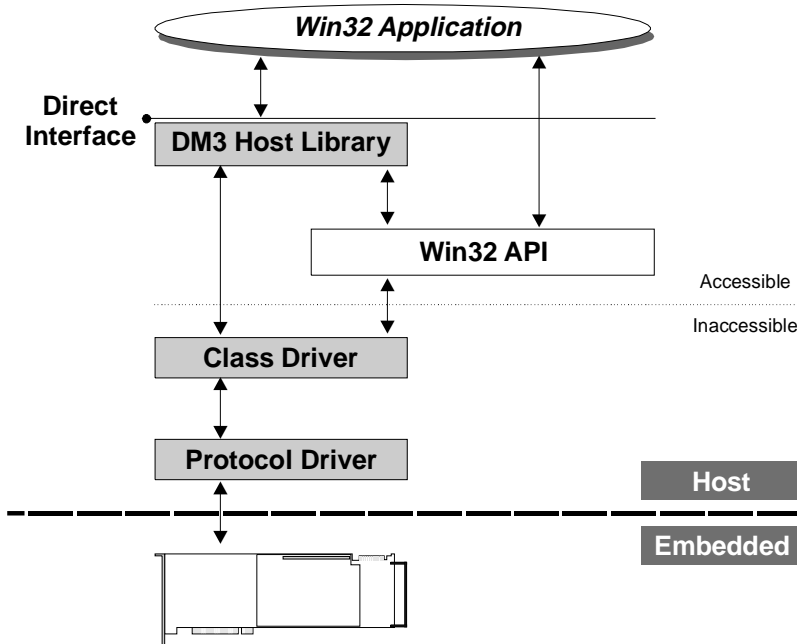

Figure 1. The DM3 Direct Interface in a System
As shown in *Figure 1. The DM3 Direct Interface in a System*, the Direct Interface (DI) is the interface between an application and the embedded system. The DI is a host library which offers access to the device drivers and is the only way to get driver-level access. For details, see *Chapter 2. Understanding the Direct Interface*.